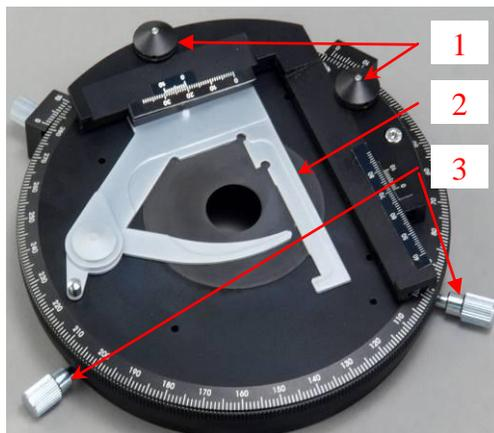
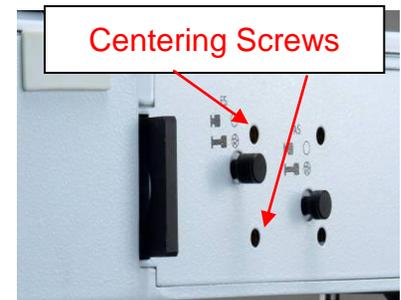

Fig. 16
Fig. 18
- 3) Place a specimen on the stage and secure it by the slide holders 2 (see Fig.16).
- 5) Find a marked feature in the field of view, and make it to situate at point “O” (Center of the ocular’s crossline) by adjusting the mechanical stage translational knobs 1 (see Fig.16).
- 7) Turn the target point to the “O” and adjust the center of the stage by turning the centering screws 3 (see Fig.16) and allow the point “S” to move toward the point “O” and coincide with it.
- 1) Turn the switch (8) to “T” position.
- 5) Place a specimen on the stage and secure it by the slide holders 2 (see Fig.16).
- 6) Pull the rod (26) to close the field diaphragm to its smallest setting. The image of the iris leaves will be showed in the field of view.
- 7) Use the Allen key to adjust the two field diaphragm centering screws (see Fig.18) to move the image of the iris to the center.
- 8) Push the rod (26) until the iris leaves are just outside the viewing field.